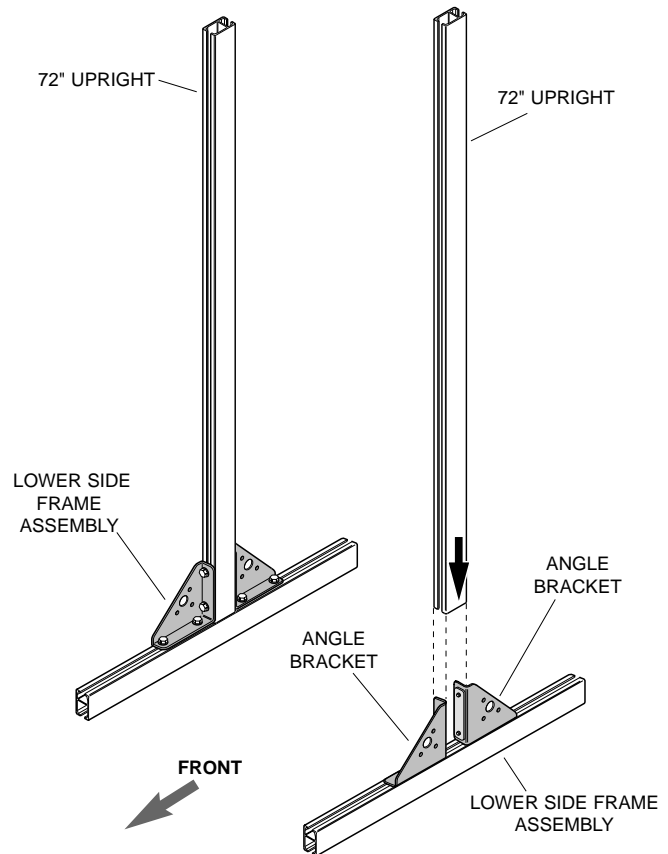

Figure 3.
3. Locate two 72" long uprights. Assemble one upright to corresponding lower side frame assembly by sliding onto angle brackets. Be sure upright is centered on lower side member. Tighten all track nuts. Repeat for other side (Fig. 3).